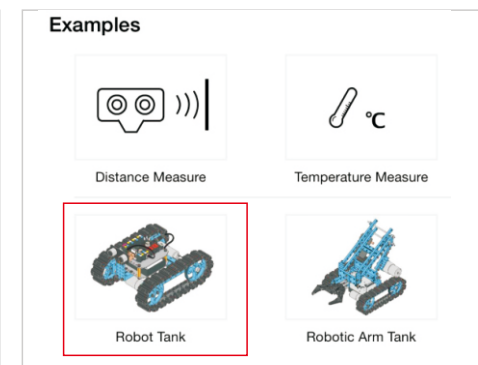

Figure 2
- 4、 Run Makeblock app, select your robot from Examples.(Figure 2)